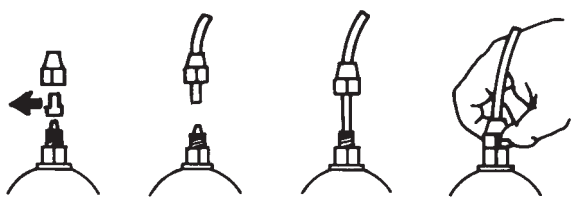

Fig. 7
e.- Remove the protection caps from the two nipples, slide the hoses over the connectors, pushing them right home, and then fix them with appropriate tube nuts. (Fig. 7).